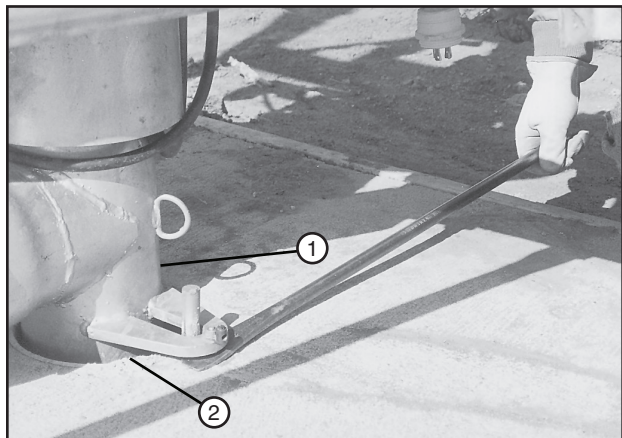

Figure 52-2 1. Riser Pipe
13. Use the winch to raise the riser pipe out of the anchor pipe. It may be necessary to pry the riser from the anchor pipe. See figure 52-2.